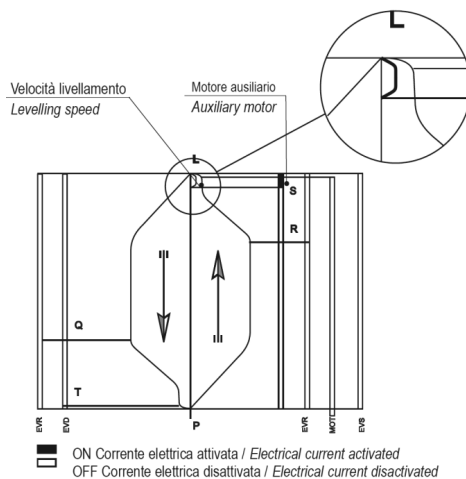

Figure 40 – Car speed diagram
- Figure 40 shows the diagram of the car speed.